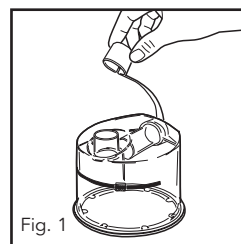

Fig. 1
- b. Remove the blue caps and discard them (Fig. 1).